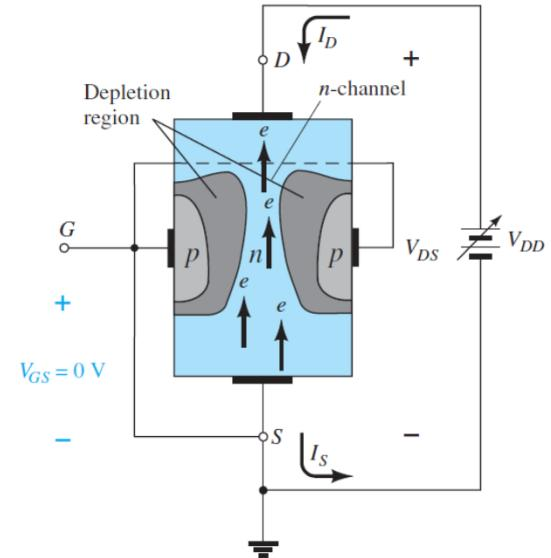

FIG. 6.5
- The instant the voltage $VDD (=VDS)$ is applied, the electrons are drawn to the drain terminal, establishing the conventional current I_D with the defined direction of Fig. 6.5 .
- In Fig. 6.5 , the flow of charge is relatively uninhibited and is limited solely by the resistance of the n -channel between drain and source.